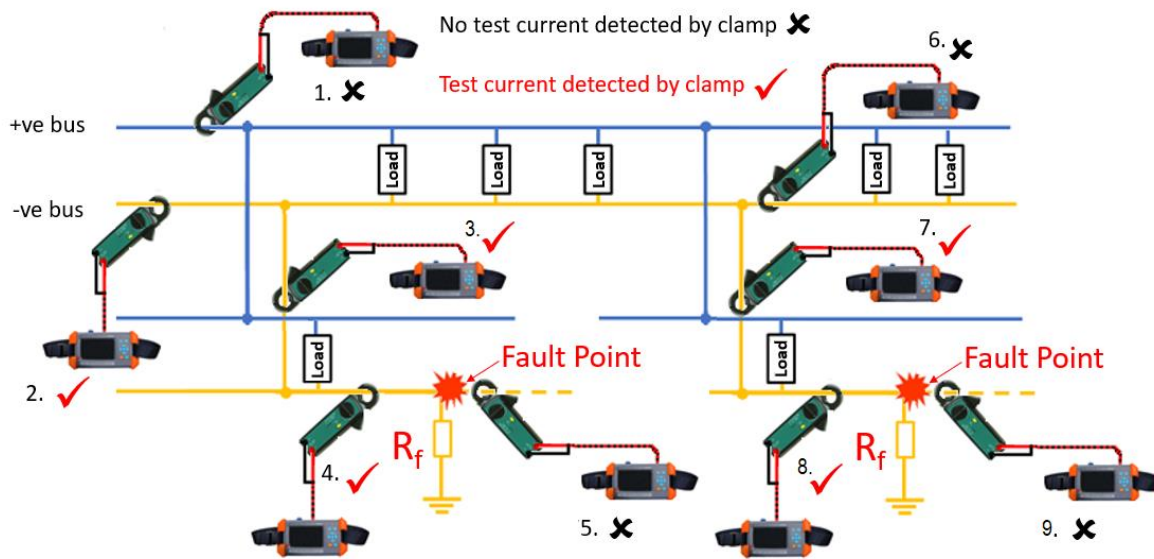

Figure 4.3 Multiple point, earth fault pinpointing process
- ii. If it is identified that there is more than one fault on the system, the process for pinpointing multiple earth faults is shown in figure 4.3